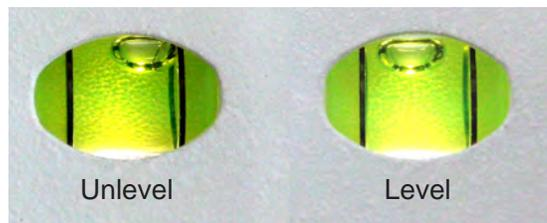

Figure IS-08, Level
Note: The Level is illuminated when the Phoroceptor Head is powered on, enabling you to see the bubble more clearly. (Please refer to Figure IS-08.)
3. Continue leveling the Phoroceptor Head, until the bubble in the Level looks like the “Level” picture at the right side of Figure IS-08.